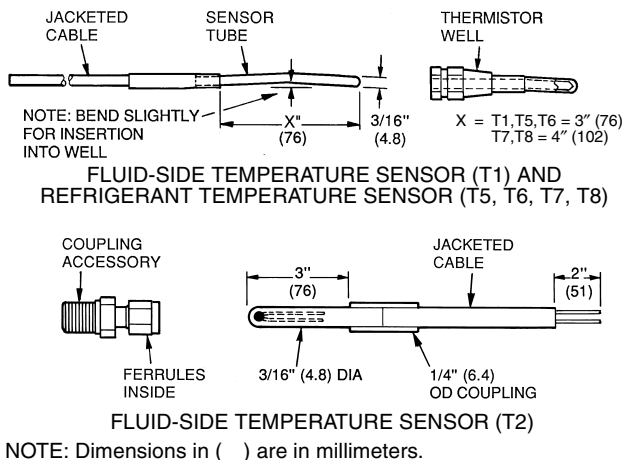

Fig. 32 — Thermistors (Temperature Sensors)
1. Remove and discard original sensor and coupling. Do not disassemble new coupling. Install assembly as received. See Fig. 32.